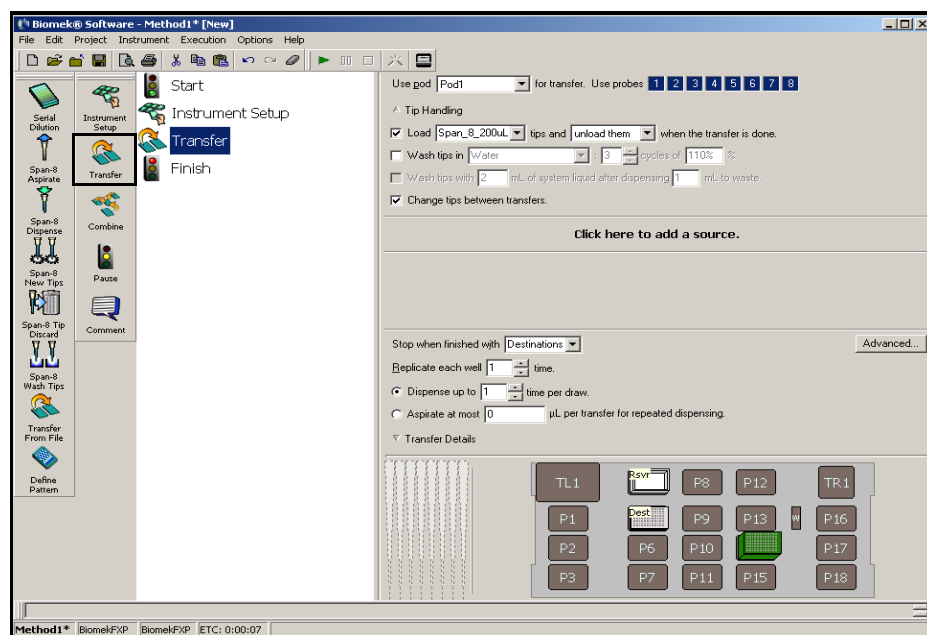
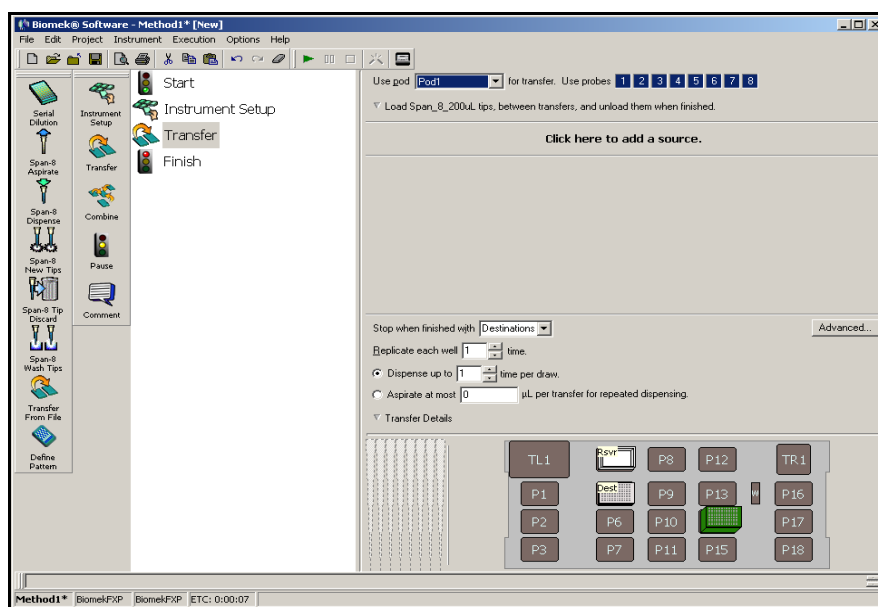

Figure 5-8. Transfer step inserted
Figure 5-9. Tip Handling configured and collapsed
2. Choose the Transfer icon from the step palette, and insert it into the method by dragging and dropping it after the Instrument Setup step. The Transfer step configuration appears (Figure 5-8). Notice the Current Deck display at the bottom of the editor is now populated to illustrate your deck setup since it changes dynamically to match the state of the deck at the start of the current step.
3. In **Use pod**, verify the Span-8 Pod is selected. If you have a hybrid Biomek FX, make sure you choose the correct pod in **Use pod**; the configuration for the Transfer step should look like Figure 5-8. If you only have a Span-8 Pod on your instrument, the Span-8 Pod Transfer step configuration will be displayed by default.
7. Your tips are configured for your liquid transfer, so click the **up arrow** next to Tip Handling (Figure 5-8). This collapses the Tip Handling configuration to allow more room for labware configuration. A simple text description of the way tips will be handled is displayed in place of the expanded Tip Handling configuration. The editor now looks like (Figure 5-9).